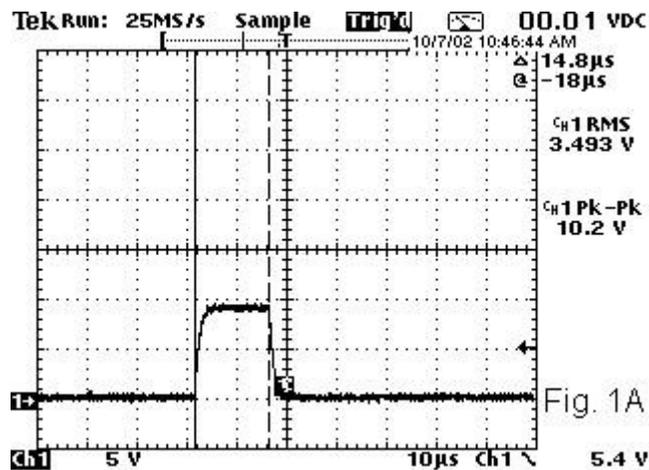

Fig. 1A - TP17 (& TP18) at 10% Duty Cycle
- 8) Verify the pulses displayed on the oscilloscope are as shown in Fig.1A (10%) and 1B (100%).